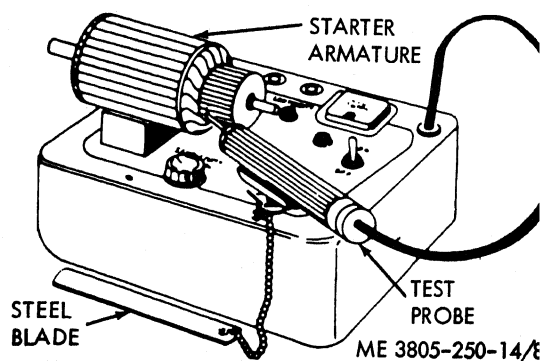

Figure 8-7. Starter tester growler.
(2) *Starter testing.* Conduct the following tests using 6625-857-9163 (40-215) growler (fig. 8-7). Tests (a), (b) and (c) are performed on the armature when it is removed from the starter. Test (d) is performed on the starter assembly. Test (e) is performed on the coil.